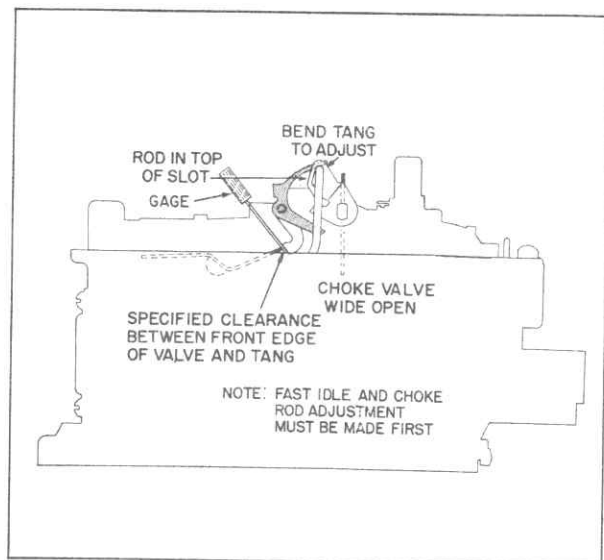

Fig. 6-101 Air Valve Lockout Adjustment
### 83. Air Valve Lockout Adjustment (Fig. 6-101)
3. Bend upper end of air valve lockout lever tang, Fig. 6-101, if necessary, to give an opening of .015 inch between lockout tang and front edge of air valve.